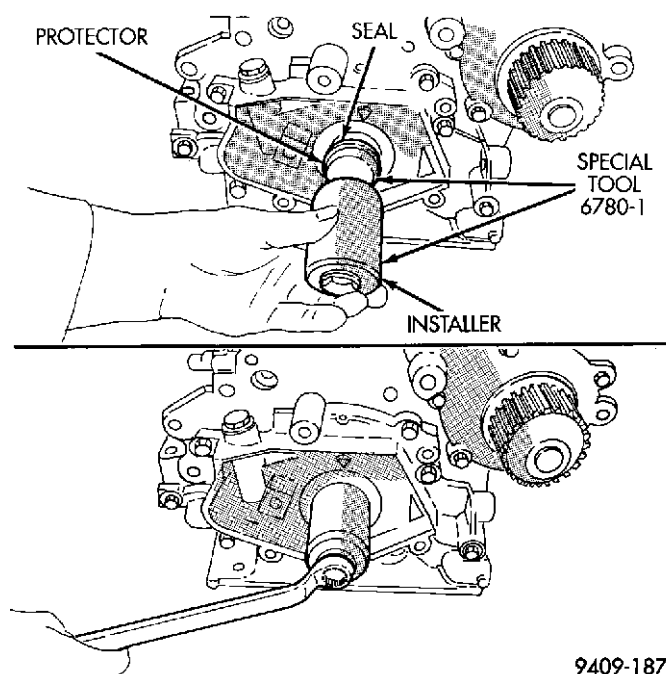

Fig. 59 Front Crankshaft Oil Seal—Installation
(1) Install new seal by using Tool 6780-1 (Fig. 59).